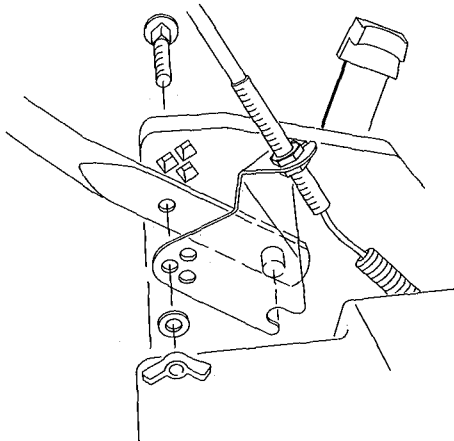

Figure 54
1. Remove handle mounting hardware from handle brackets (Fig. 54).